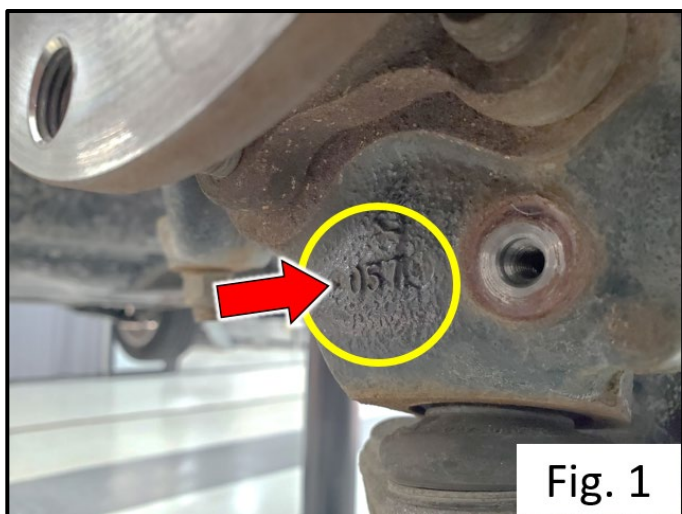
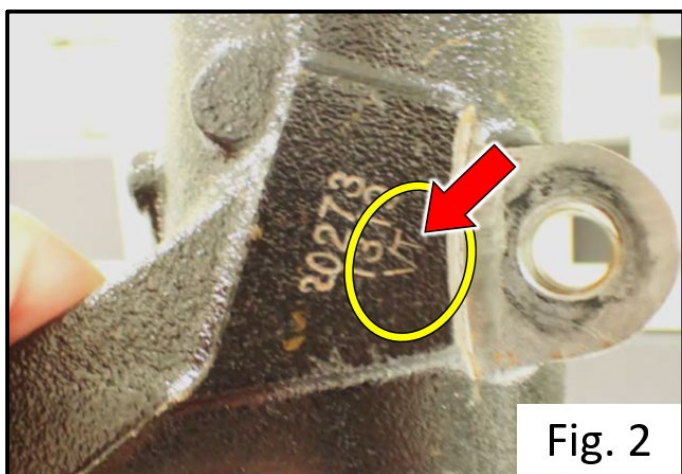

Fig. 1
Fig. 2
- Locate the wheel bearing housing casting date <arrow> (Fig. 1).
- Locate the production stamping on the wheel bearing housing <arrow> (Fig. 2).
- If the casting date is **253** (Fig. 1) AND the machining code **VT** is present (Fig. 2):